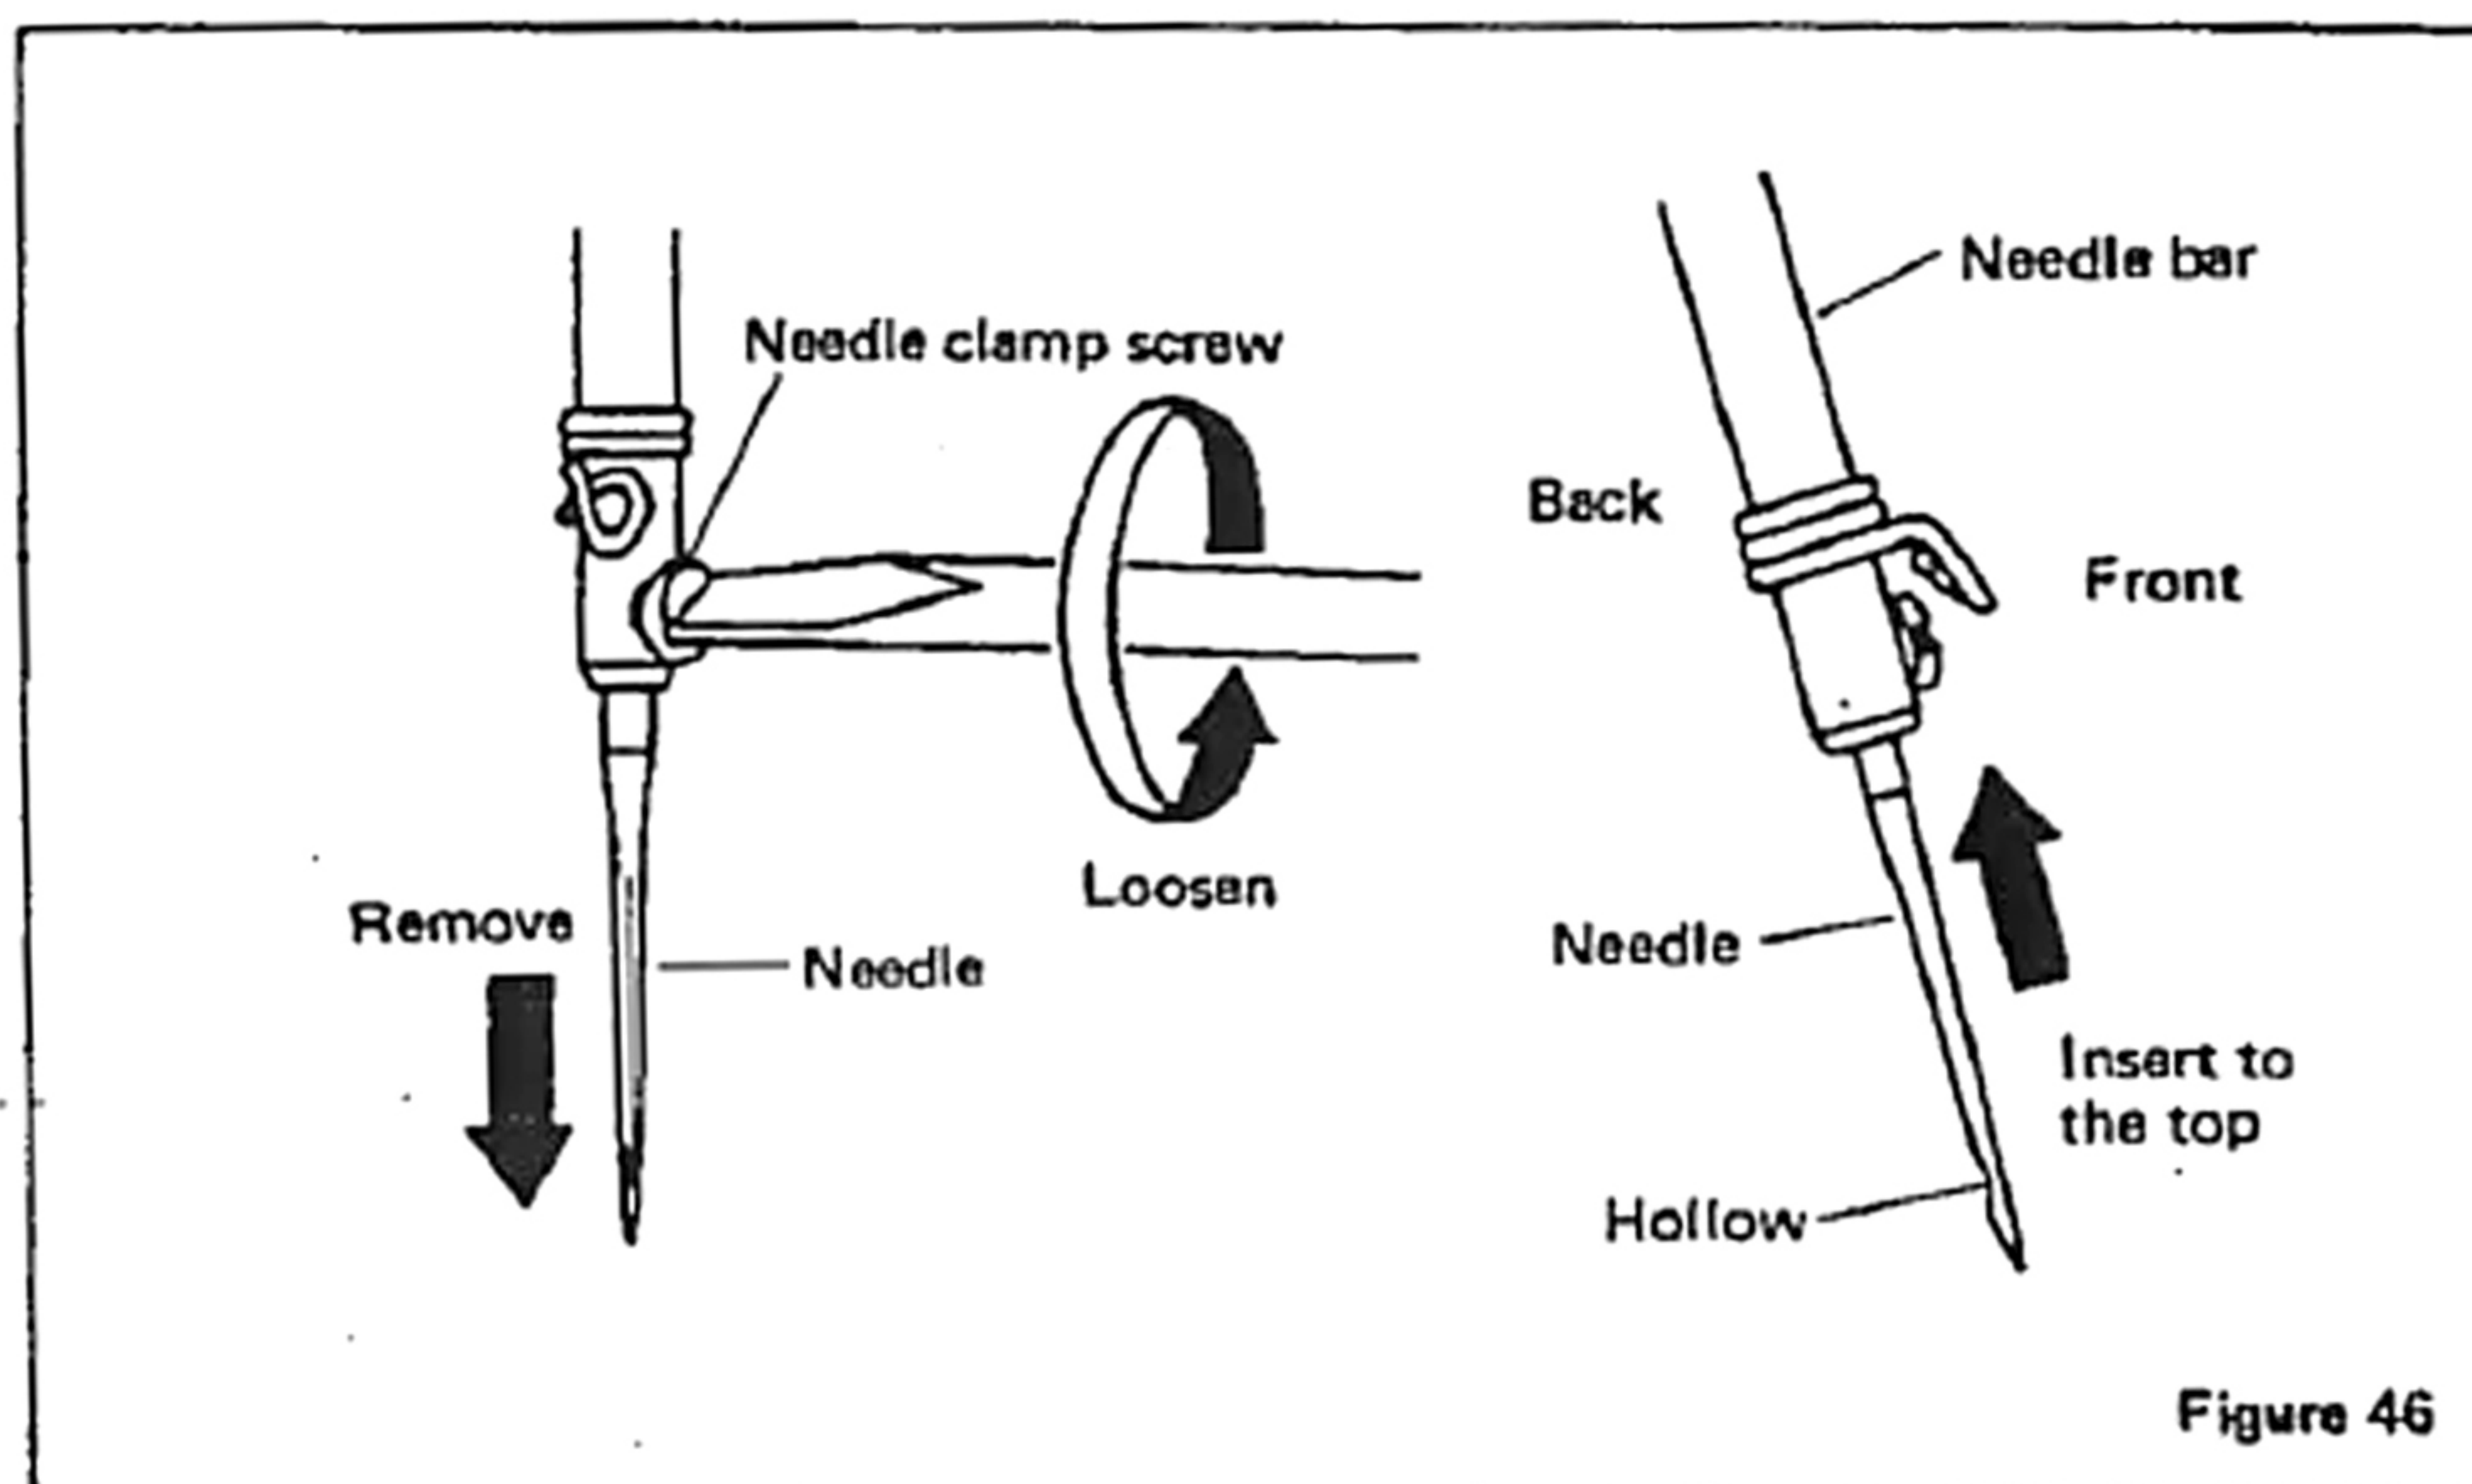

Figure 46
4. When inserting the needle, be sure to have the long thread guide groove facing the front. Do not mistake the thread guide groove of the needle for the hollow of the needle (See Figure 46).